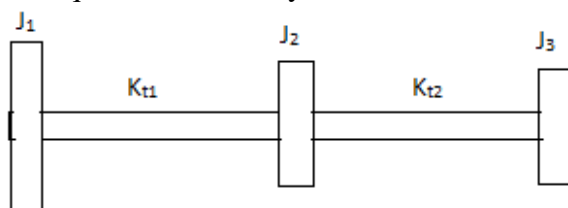

Fig.3
- 4). A three rotor system shown in Fig.3 as following physical constants. $J_1=10\text{kg-cm-s}^2$, $J_2=7\text{kg-cm-s}^2$, $J_3=4\text{kg-cm-s}^2$, $k_{t1}=4 \times 10^6 \text{ kg-cm/rad}$, $k_{t2}=2 \times 10^6 \text{ kg-cm/rad}$. Find the natural frequencies of the system. (12M)